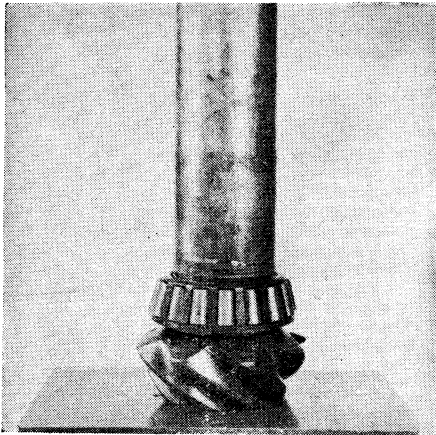

Fig. 30 Pressing on pinion rear bearing
1. Press rear bearing squarely and firmly against pinion shaft shoulder, Fig. 30.